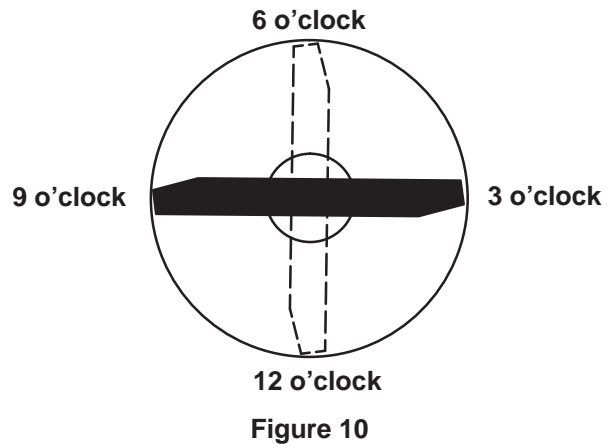

Figure 10
4. Position cutting edge of marked end of blade at 12 o'clock (straight ahead in direction of mowing) (Fig. 10) and measure height from table to cutting edge of blade.
5. Rotate marked end of blade to the 3 and 9 o'clock positions (Fig. 10) and measure heights.